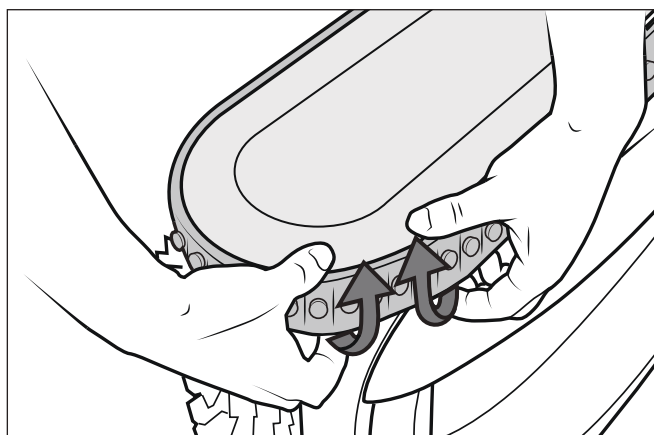

Figure 25. Pull the Old Track Over the Wheel
1. Pull on the inside of the old track to remove the track lip from the front wheel (Figure 25).